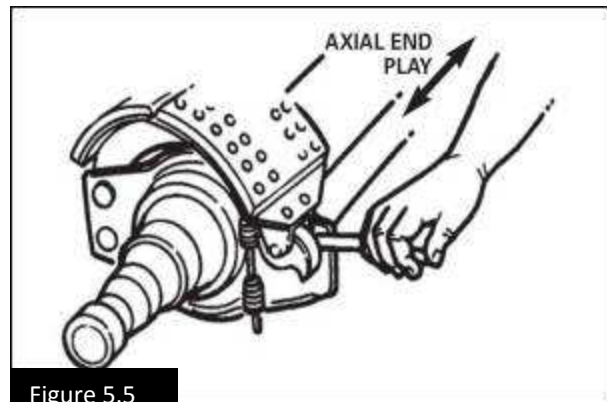

Figure 5.5
10. Check the axial end play of the camshaft. If total movement is more than 0.060-inch (1.52 mm), replace the bushings, camshaft or both as specified in Section 12. Figure 5.5